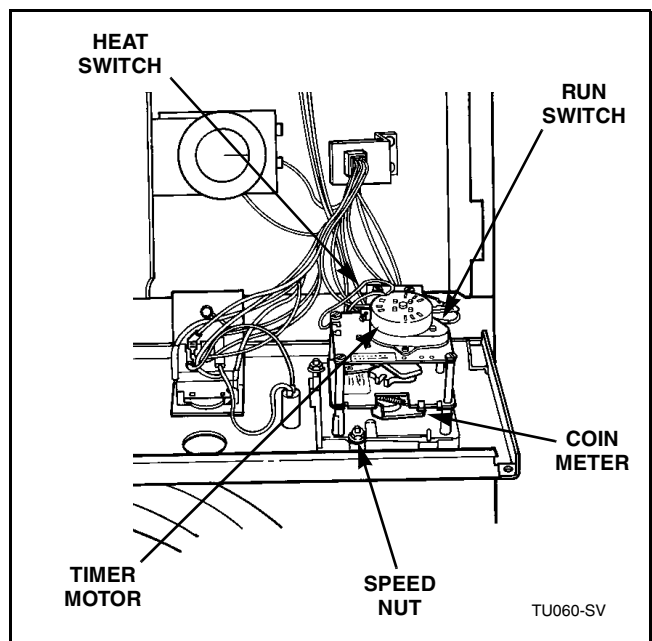

Figure 7
- d. Remove four speed nuts holding coin meter to coin meter frame. Refer to *Figure 7*.